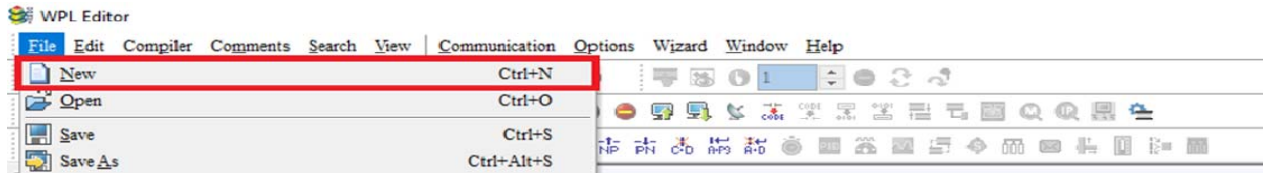

Figure 16-5
NOTE You can also find "New file (N) (Ctrl+N)" in the "File (F)", as shown in figure 16-5 below.